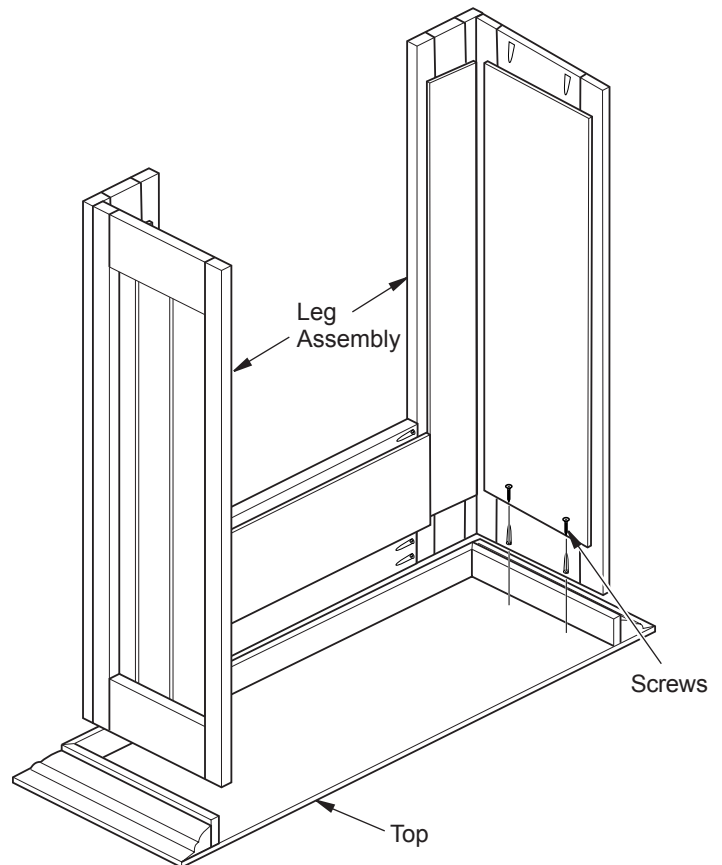

**Figure 2 - Installing Header**
2. Place header between right and left leg assemblies (see Figure 2). The top of header must be flush with top of side leg assemblies.